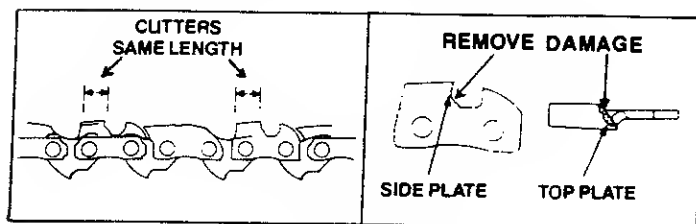

Figure 32
- d.) Keep all cutters the same length. Figure 32
- e.) File enough to remove any damage to cutting edges (side plate and top plate) of cutter. Figure 32.